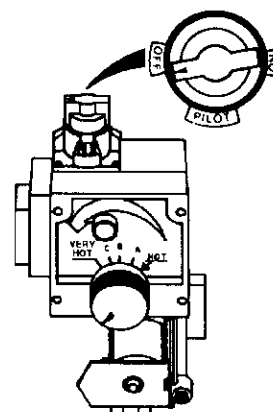

Figure 9
4. Set the thermostat to lowest setting by turning the water temperature dial clockwise, (↻) to its lowest temperature setting (with arrow on dial) as shown. **DO NOT FORCE.** (Figure 9, Page 22)
6. Wait five (5) minutes to clear out any gas. If you then smell gas, **STOP!** Follow "B" in the safety information above on this label. If you don't smell gas, go to the next step.
9. If you don't smell gas, turn knob on gas control counter-clockwise (↺) to "PILOT" position. (Figure 9, Page 22)
10. Push in control knob all the way and hold down. Immediately light the pilot with a match. Continue to hold control knob in for about one (1) minute after the pilot is lit. Release knob and it will pop back up. Pilot should remain lit. If it goes out, repeat steps 5 through 10.
- If the pilot will not stay lit after several tries, depress and turn the gas control knob clockwise (↻) to "OFF" and call your service technician or gas supplier. (Figure 9, Page 22)
4. Turn gas control knob clockwise (↻) to "OFF" position. Knob cannot be turned from "PILOT" to "OFF" unless knob is depressed slightly. **DO NOT FORCE.** (Figure 9, Page 22)